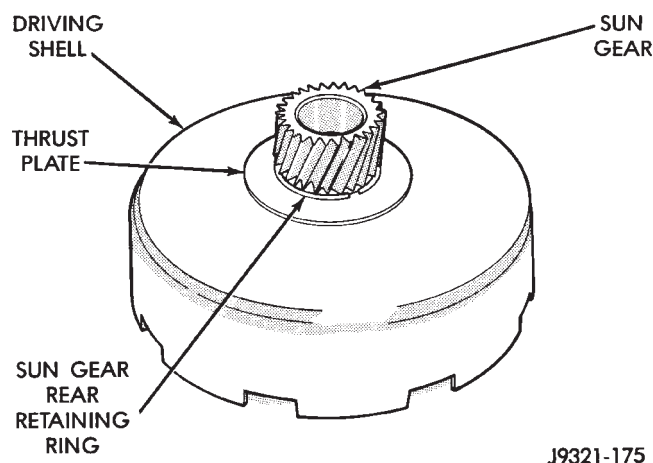

Fig. 78 Sun Gear Installation—46RH
(2) Install front snap ring on sun gear and install gear in driving shell. Then install thrust plate over sun gear and against rear side of driving shell (Fig. 78). Install rear snap ring to secure sun gear and thrust plate in driving shell.